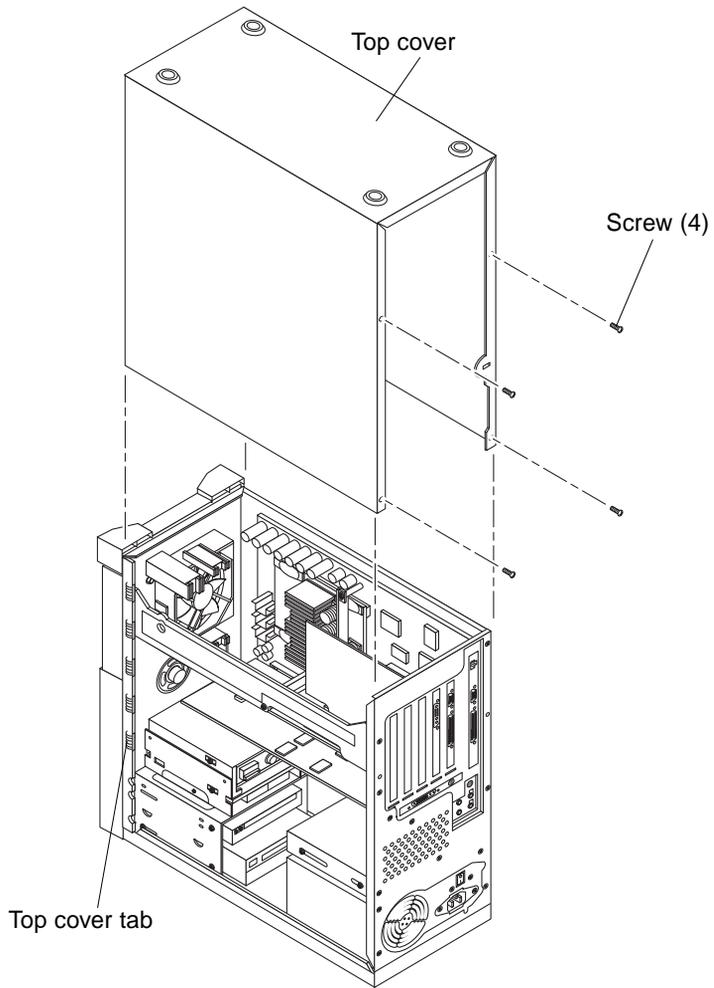

FIGURE 7-2 Removing and Replacing the Top Cover (Ultra 10)
4. Remove the Ultra 10 top cover as follows (FIGURE 7-2):
3. **Replace the Ultra 10 top cover as follows: (FIGURE 7-2):**